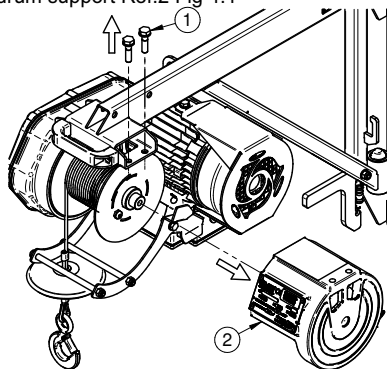

Fig. 4.1
Warning: - 4) Ensure that the load is securely connected to the elevator hook and also close the safety catch (ref.6 fig. 4.1).
1) remove the drum by unscrewing the 2 screws Ref.1 Fig 4.1 and removing the drum support Ref.2 Fig 4.1